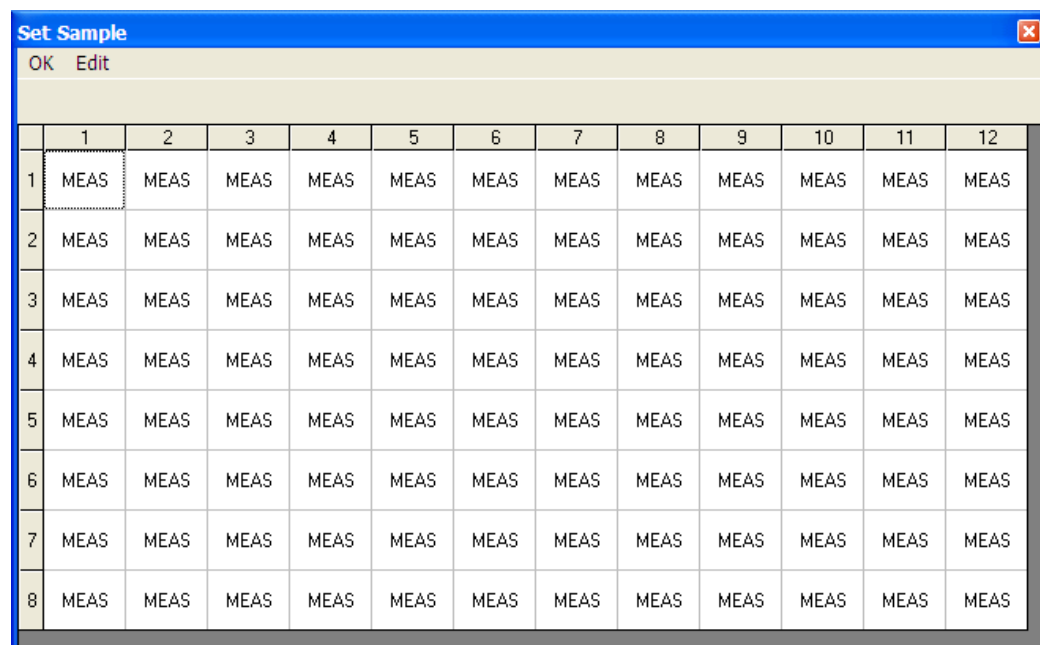

Figure 6-12: Set Sample
Choose **Set Sample** to specify the wells on the plate to measure. Set Sample appears (Figure 6-12).
- Set/De-select actual row — selects/deselects all wells in the same row as the initial well selected (Figure 6-12).
- Set/De-select actual column — selects/deselects all wells in the same column as the initial well selected (Figure 6-12).